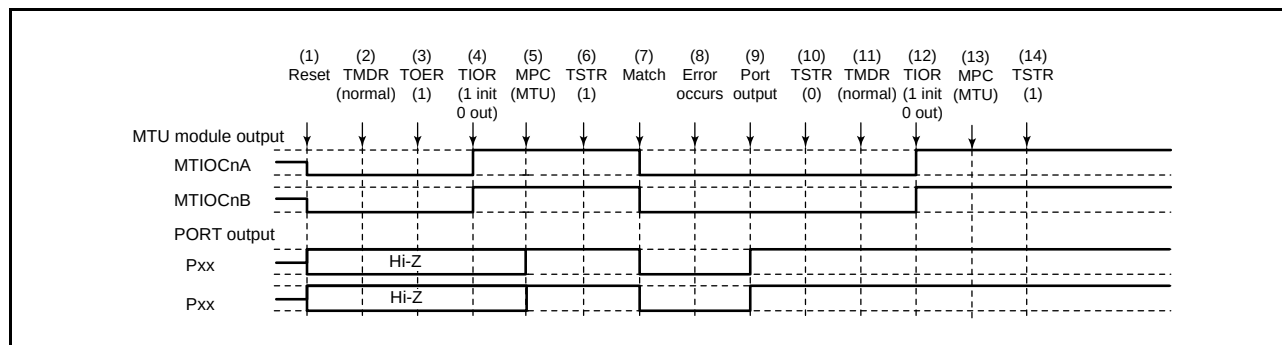

**Figure 19.143 Error Occurrence in Normal Mode, Recovery in Normal Mode**
Figure 19.143 shows a case in which an error occurs in normal mode and operation is restarted in normal mode after re-setting.
(1) to (10) are the same as in Figure 19.143.
(11) Set PWM mode 1.
(12) Initialize the pins with the TIOR register. (In PWM mode 1, waveforms are not output to the MTIOCnB (MTIOCnD) pins. To output a specified level, make necessary settings for general output ports in the port direction registers (PDR) and port output data registers (PODR) of the I/O ports.)
(13) Set MTU output using the MPC and port mode registers (PMR) corresponding to the I/O ports.
(14) Restart operation by setting the TSTR register.
(11) Set PWM mode 2.
(12) Initialize the pins with the TIOR register. (In PWM mode 2, a waveform is not output to the pin that corresponds to the TGR register used as a period register. To output a specified level, make necessary settings for general output ports in the port direction registers (PDR) and port output data registers (PODR) of the I/O ports.)
(11) Set the phase counting mode.
(12) Initialize the pins with the TIOR register.
(11) Initialize the normal mode waveform generation block with the TIOR register.
(12) Disable operation of the normal mode waveform generation block with the TIOR register.
(13) Disable output in MTU3 and MTU4 with the TOERA register.
(14) Select the complementary PWM output level and enable or disable cyclic output with registers TOCR1A and TOCR2A.
(15) Set complementary PWM mode.
(16) Enable output in MTU3 and MTU4 with the TOERA register.
(17) Set MTU output using the MPC and port mode registers (PMR) corresponding to the I/O ports.
(18) Restart operation by setting the TSTRA register.